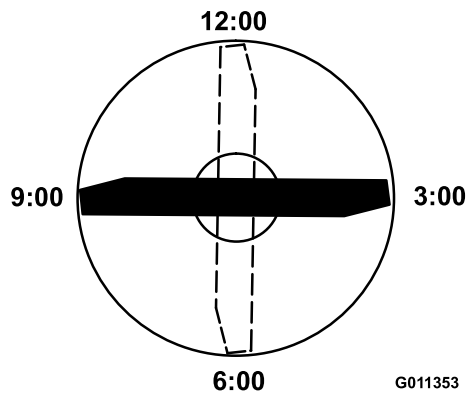

Figure 63
4. Position the cutting edge of the marked end of the blade at 12 o'clock (straight ahead in the direction of mowing) (Figure 63) and measure height from table to cutting edge of blade.
5. Rotate the marked end of the blade to the 3 and 9 o'clock positions (Figure 63) and measure the heights.